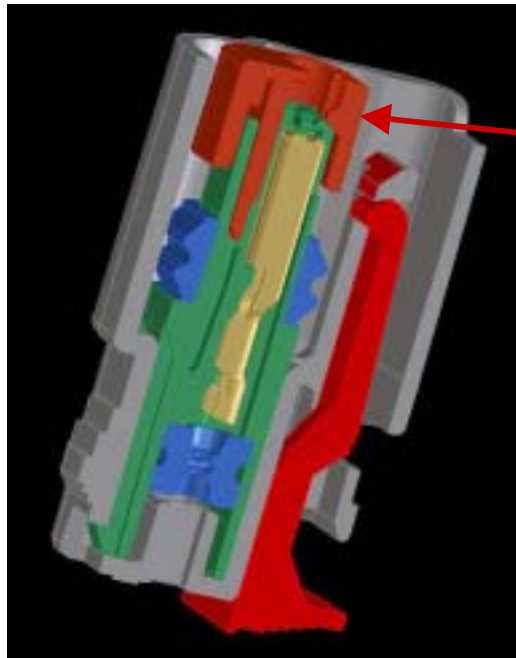

Fig. 3-1
- A. TPA shown in “As-Shipped” position (FIG. 3-1)
- n TPA to remain in pre-lock position (as shipped) until all circuits are loaded (Fig. 3-1)